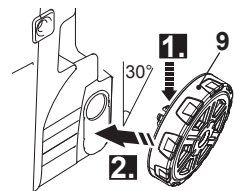

Fig. 5
- > Aim the wheels (9) to the holes on the back housing and keep 30° before insert (Fig. 5, step 1).
- > Press the clips on the wheel shaft inwards and insert the wheels in gently (Fig. 5, step 2).